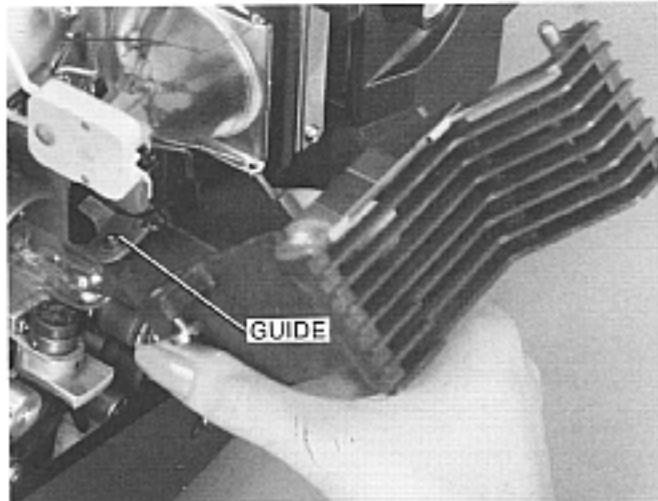

Figure 31
9. Be careful to not damage the exciter lamp when replacing the projection lamp cover. It will probably be easier if you put the guide at the bottom of the cover into the projector frame, as shown in Figure 31.